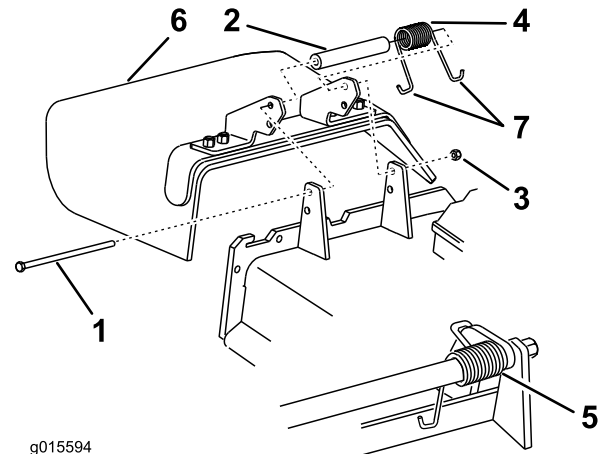

Figure 97
1. Remove the locknut, bolt, spring, and spacer holding the deflector to the pivot brackets (Figure 97).
Note: Make sure one J end of spring is installed behind deck edge before installing the bolt as shown in Figure 97.
4. Install bolt and nut. Place one J hook end of spring around grass deflector (Figure 97).